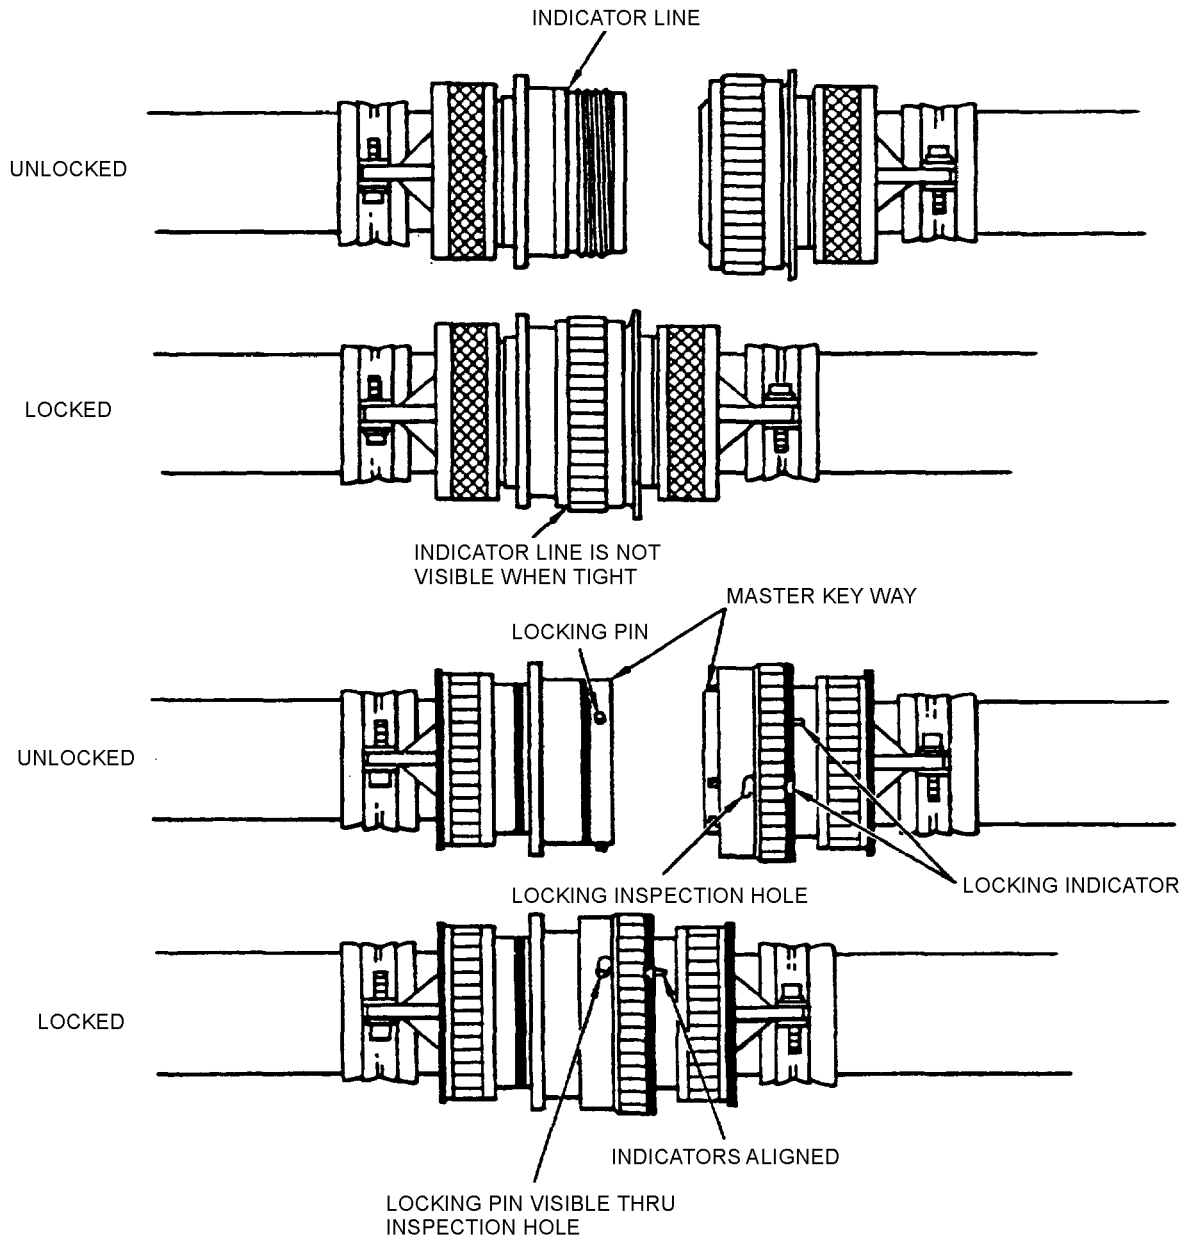

Figure 4. Mating or Coupling Connectors
- c. Inspect the connection or contact for damage then couple the connectors. Insert the contacts in their respective locations in accordance with the appropriate connector work package and verify that the connectors are completely mated and contacts securely inserted (paragraph 55). A typical example is shown in Figure 4. Each connector type has an indicator.